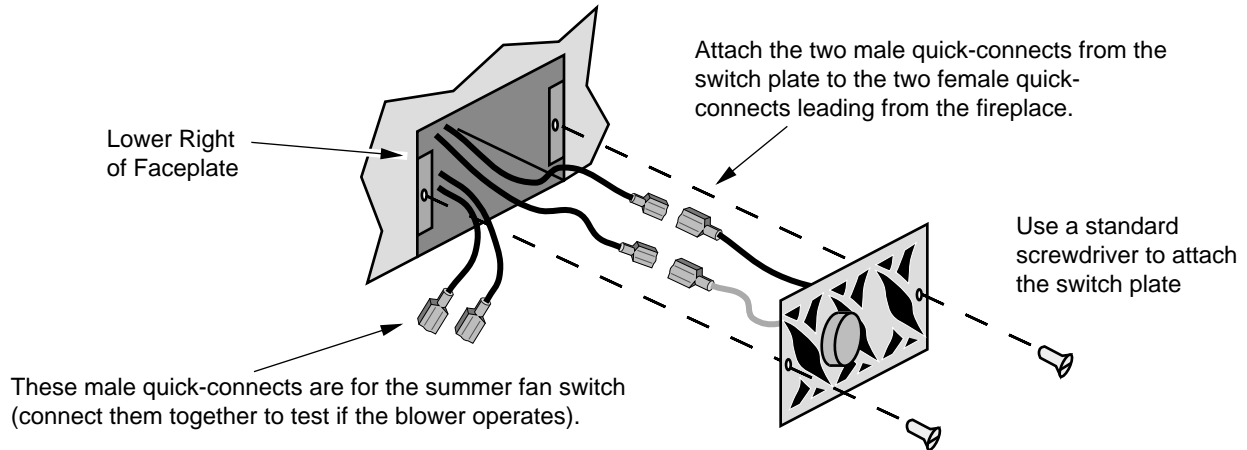

Figure 35
- Attach the two male quick-connects from the switch plate to the two female quick-connects leading from the fireplace (see Figure 35). If the optional summer fan switch is being used, connect the other two quick connects, otherwise tuck the two male quick-connects leading from the fireplace into the cavity behind the faceplate. Attach the switch plate to the faceplate using a standard screwdriver (NOTE: the attachment screws are threaded into the faceplate).